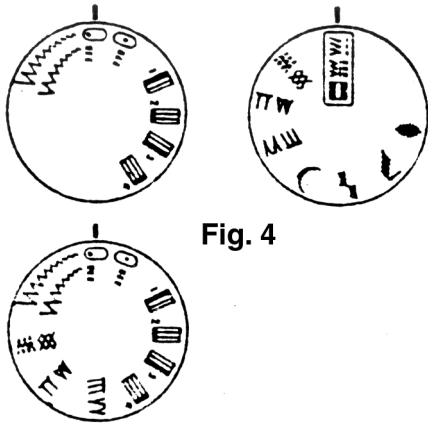

Fig. 4
- Set the widest zigzag stitch (fig. 4).